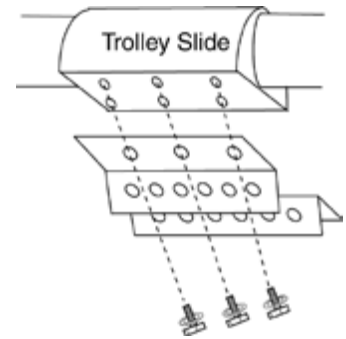
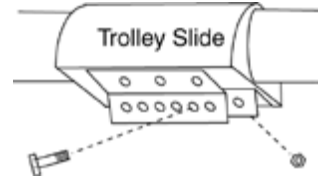

Figure 3a
Figure 3b
Assemble trolley brackets onto the trolley slide with (6) 5/16" x 3/4" SS bolts and 5/16" lock washers, use anti-seize on these bolt threads! (Figure 3a). Add 5/16" x 1-1/2" bolt with 5/16 lock nut (Figure 3b) to one of the trolley bracket holes for future connection of the drawbar arm. This may be repositioned for final connection and adjustment of the door arm.